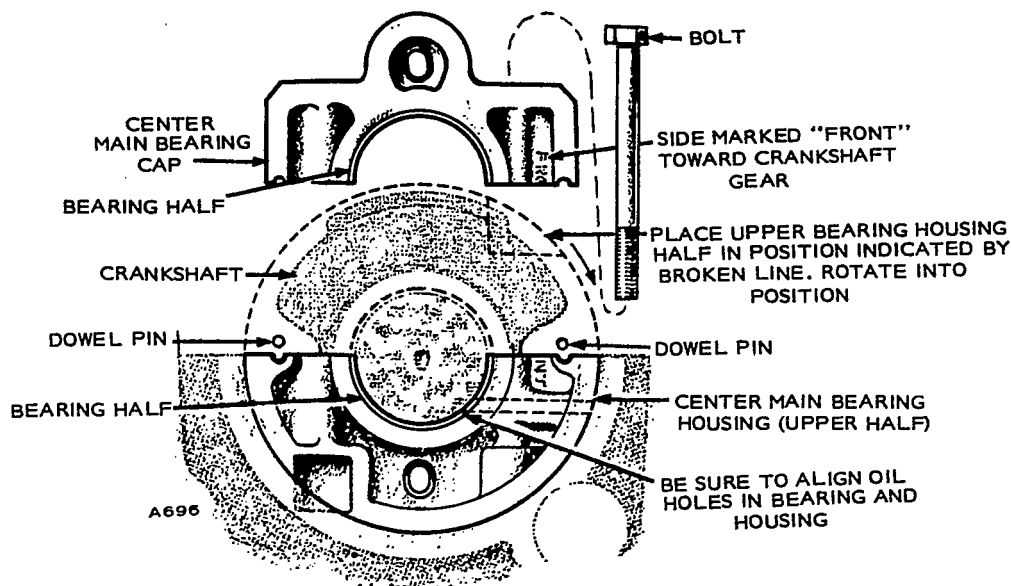

FIGURE 86. CENTER MAIN BEARING (FOUR CYLINDER ONLY)
5. **FOUR CYLINDER ONLY.** Set upper half of center main housing on crankshaft and rotate it into place. Be sure side marked FRONT is toward crankshaft gear. Set two positioning dowels on upper bearing mount. Install center main bearing cap and torque bolts to 97-102 lb. ft. (Figure 86).